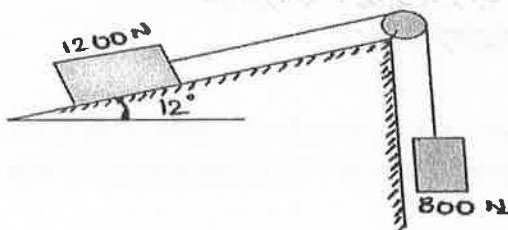

Figure 6
- b) A body weighing 1200N rests on a rough plane inclined at  $12^\circ$  to the horizontal. It is pulled up the plane by means of a light flexible rope running parallel to the plane and passing over a light frictionless pulley at the top of the plane as shown in figure 6. The portion of the rope beyond the pulley hangs vertically down and carries a weight of 800N. If the coefficient to friction for the plane and the body is 0.2, find (10)